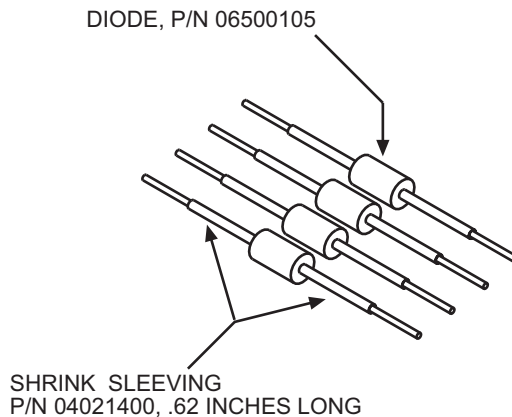
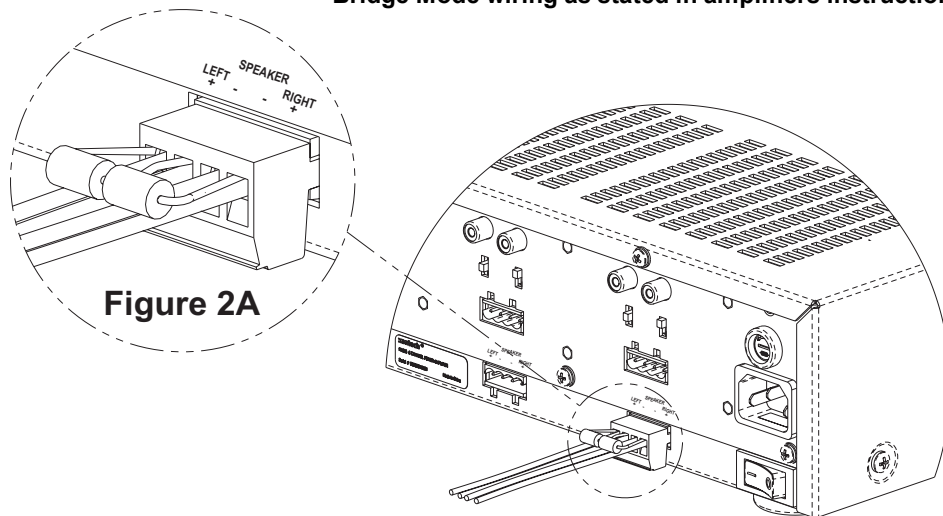

Figure 1: Transient Voltage Suppression (TVS) Diode
Figure 2: TVS Diode Installation
Refer to **Figure 1** and **Figure 2** for the following instructions:**Note: Modification does not affect sonic quality**
3. Place the insulation sleeves (PN# 04021400) onto **both** leads of the TVS diode as shown in **Figure 1**.
12. Place the WECO connector on the proper output of the amplifier to be protected (See **Figure 2**).